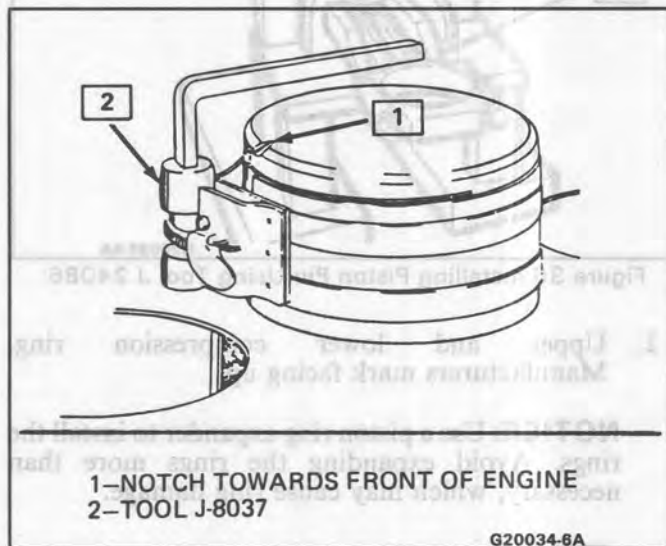

Figure 38 Installing A Piston Using A Piston Ring Compressor
4. Piston ring compressor (Figure 38)